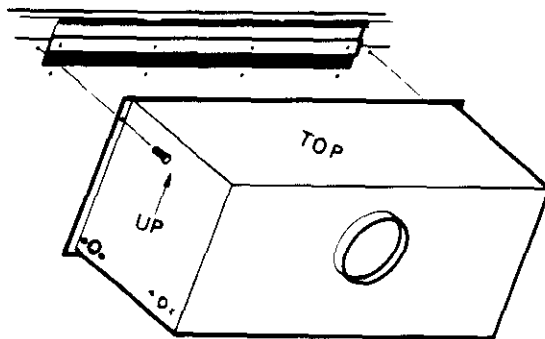

Figure 24 (4-014)
- a. Find and remove two installed draft diverter mounting screws. See Figure 24. Save them for reinstallation.
- c. Position draft diverter with vent outlet as shown in Figure 24. Align screw holes in draft diverter side flanges with screw holes in furnace casing. Attach draft diverter using screws saved in 2) a).